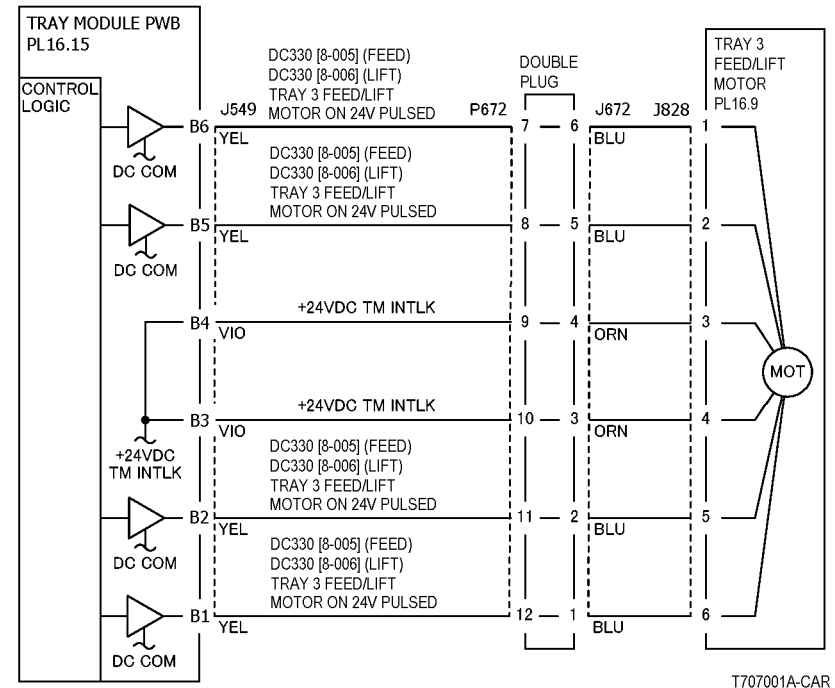
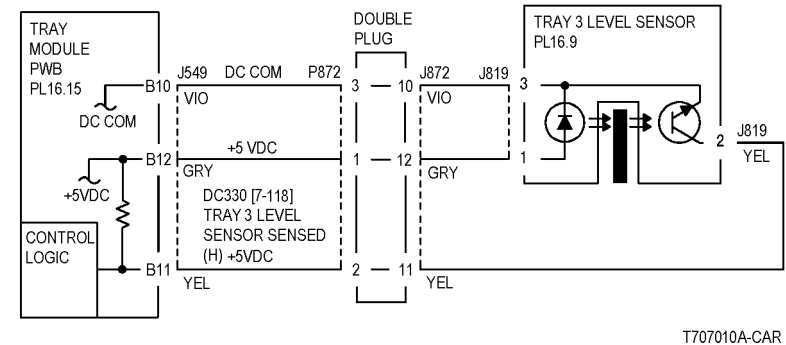

Figure 1 Tray 3 Lift/Feed Motor
Figure 2 Tray 3 Level Sensor
- Ensure that the connectors shown in the circuit diagrams (Figure 1, Figure 2) are securely connected and that the wires are not damaged.